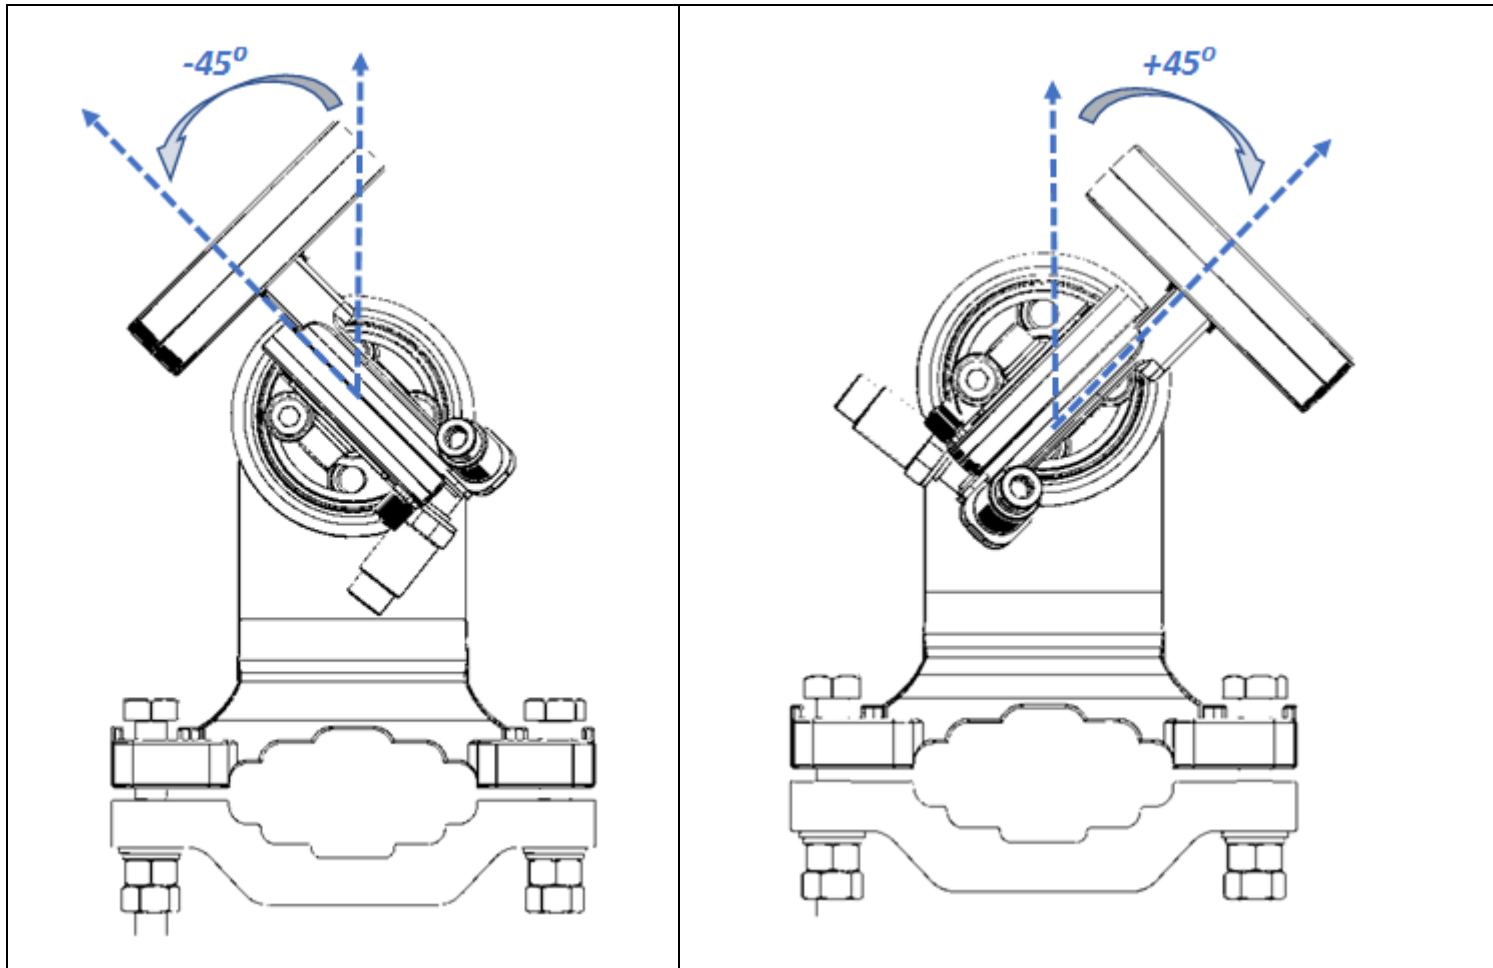

Figure 28: Installation and Alignment Device – Azimuth Range
There are two M8 Elevation Screws and two M8 Azimuth screws, as shown in **Figure 28**. Before starting the alignment, make sure these screws are securely in place so they will not fall out during the procedure, but not too tight, so as to enable you to manually adjust the azimuth and elevation to the approximate position you want, before performing exact antenna alignment as described in the following sections.
You can easily adjust the azimuth and elevation of the antenna using a number of screws and nuts located on the installation and alignment device (**Figure 28**).
1. Loosen the Azimuth Fixing Pin (Figure 28) by pulling it gently out of its groove and rotating it counter-clockwise.
1. Turn the Azimuth Nut (Figure 28), either by hand or using a key wrench, for fine tuning of the azimuth. Each $\frac{1}{4}$ turn is equal to an adjustment of 0.25° .